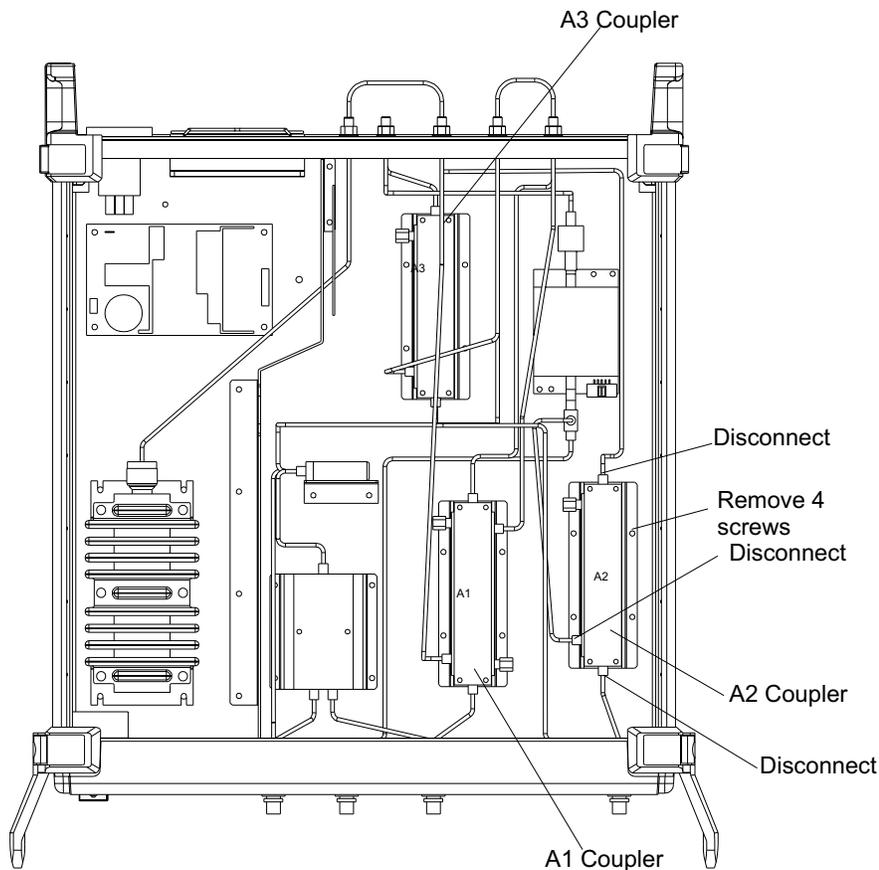

Figure 5-3. A1, A2, or A3 Coupler Removal
- Step 2.** Disconnect the three connectors (Figure 5-3).